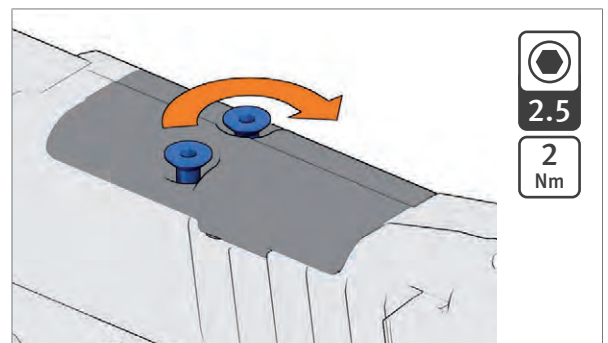

Fig. 32: Tightening the screws
3. Tightening the screws (Fig. 32).